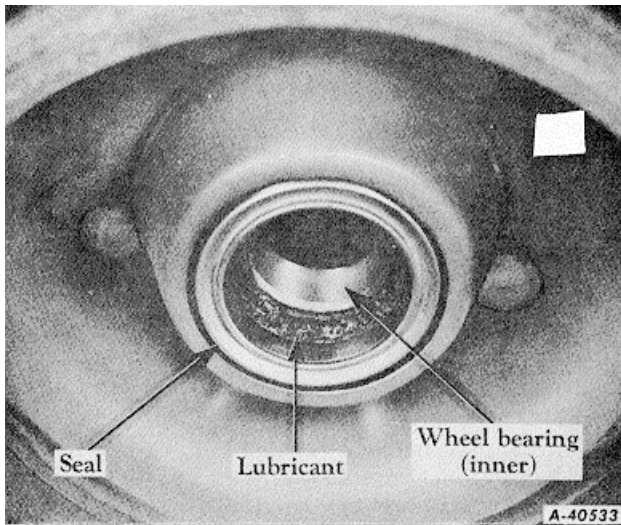

Fig. 7
5. Drive hub seal into hub until it bottoms in hub bore. Do not continue to drive after seal is once seated as this will distort or damage the seal. After removal of seal installer tool, clean off excess Permatex (for proper installation, note Fig. 7).